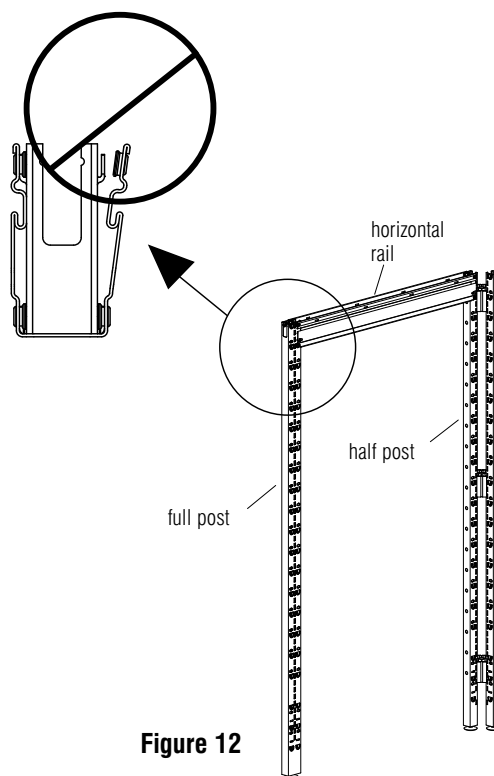

Figure 12
2. Referring again to the space plan, position the appropriate vertical post (full or half post) relative to the horizontals and tap the horizontals into place. **Figure 12.**